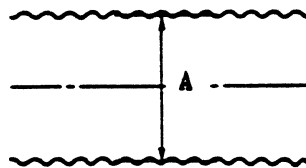

Figure 4-19 Head Unload Signal "A"
9. Use the oscilloscope to measure Channel 2 output waveform "A" with the disk drive selected, refer to Figure 4-19.